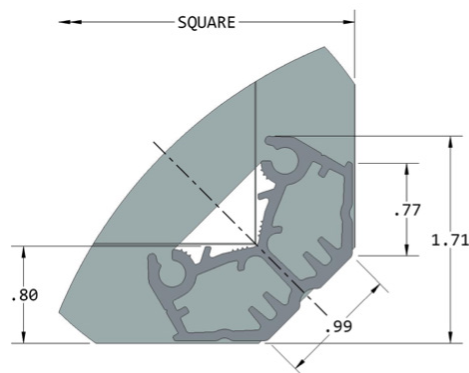

Figure 6
2. Custom corner extrusions: Our special aluminum corner extrusions (figure 6) contribute to the plate exchanger overall rigidity. Its hollow section enables you to use screws for the plate exchanger's installation with no risk of creating unwanted cross leakage. Its 45° angled corner also facilitates installation and reduces the diagonal dimension.